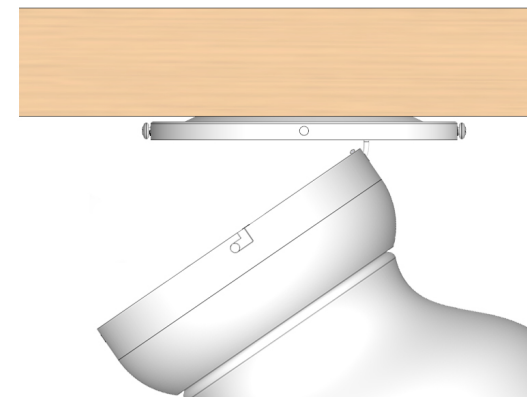

Fig. 5.1
5.1 Carefully lift the fan-motor assembly and hang it using the hook of the mounting plate. Securely suspend the motor assembly by using one of the round holes at the outer rim of the motor housing as shown in Fig. 5.1.